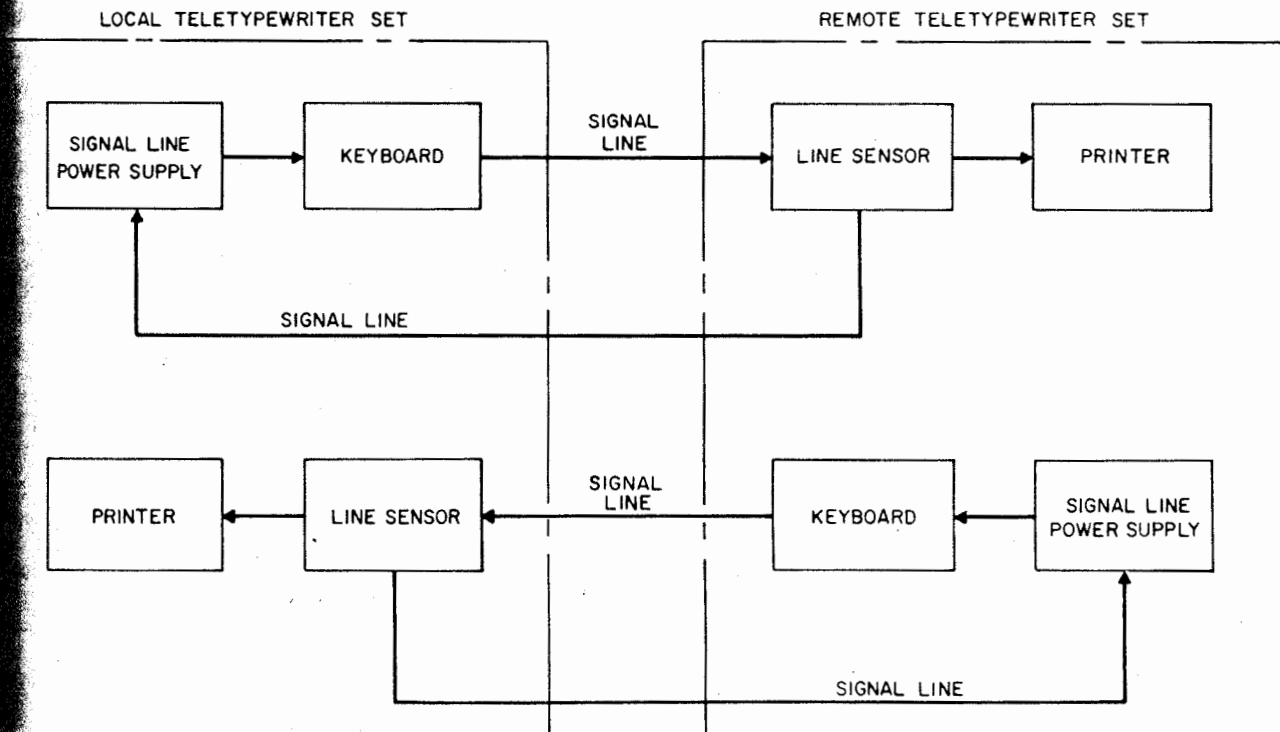

Figure 4-4. Full-Duplex Mode, Functional Block Diagram
e. FULL-DUPLEX MODE. — Full-duplex mode operation (figure 4-4) requires two separate signal loops and permits simultaneous sending and receiving. Since each keyboard is operated independently of its printer, no home copy of the message is available. Operation of the equipment in sending and receiving is essentially the same as operation in half-duplex mode except that the depression of a BREAK switch will open only one signal loop.